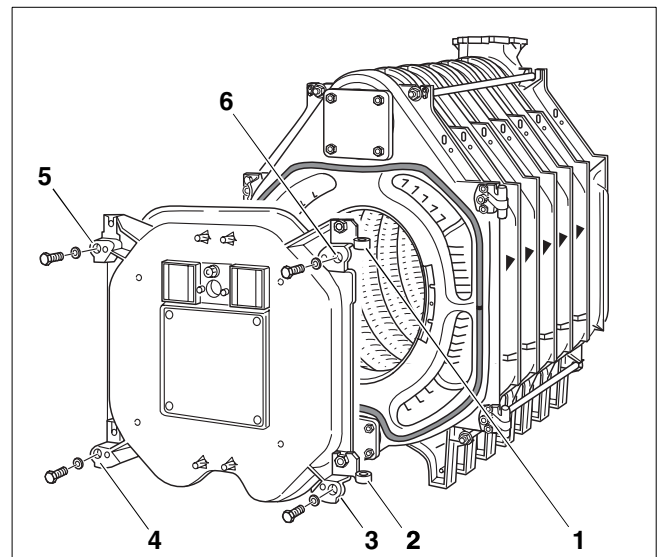

Fig. 29 Hanging burner door
In the factory the two hinge knuckles are mounted on the right of the burner door (Fig. 29, **ref. 1 and 2**). For a left-hung door, take the knuckles off and fit them on the left of the burner door in the same way
- Close burner door and seal it with four M16 x 140 mm machine bolts (Fig. 29, **ref. 3 – 6**). Tighten the machine bolts evenly, working diagonally.